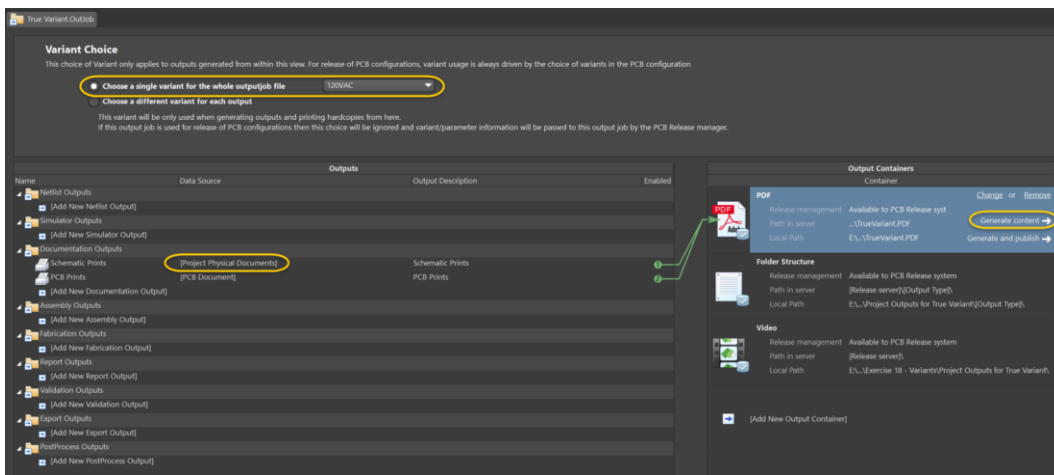

Figure 9. Generating PDF for Schematic and Assembly Drawing
24. At the top of the Output Job interface, in the *Variant Choice* section, select the **Choose a single variant for the whole output job file** option as shown in Figure 9. We will work with the `120VAC` variant for now.
27. Select the **Generate Content** button as shown in Figure 9 to generate a PDF printout of the Schematic and PCB Assembly Drawings.